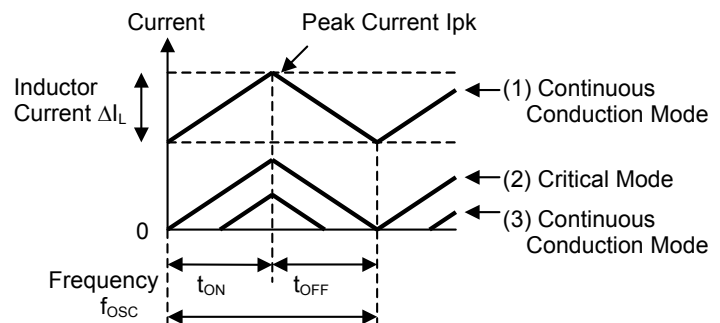

Fig. 4. Inductor Current State Transition
Ideally, the value of L is set so that inductance current is in continuous conduction mode. However, as the load current decreases, the current waveform changes from (1) CCM: Continuous Conduction Mode $\rightarrow$ (2) Critical Mode $\rightarrow$ (3) DCM: Discontinuous Conduction Mode (Fig. 4.).